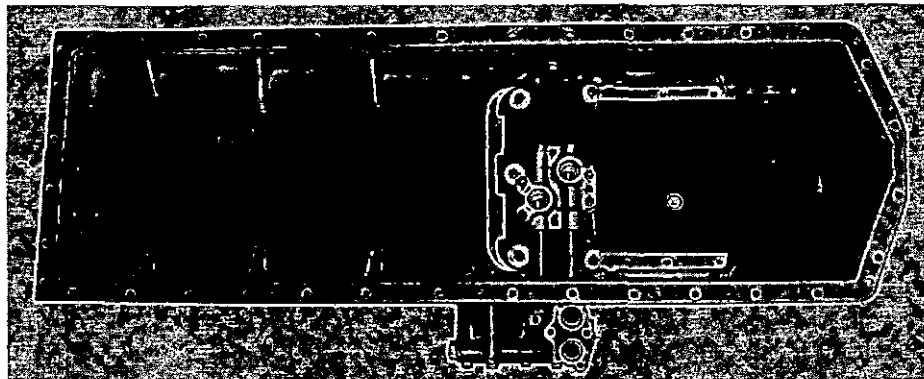

Fig. 23 Interior, forward pannier sump
22. **Sump.** Fit the relief valve assembly and oil gallery pipes (see fig. 23) using new joints and 'O' rings. Coat sump and crankcase joint faces thinly with 'Wellseal', attach a new joint washer and temporarily fit a $\frac{1}{4}$ inch UNF guide pin of suitable length (dependent on sump type) at each corner of the crankcase joint face. Lower the sump into position on the pins, fit the setbolts, each with a plain and spring washer, and tighten them evenly. Tighten the sump drain plug to between 80 and 85 lbf.ft. (110 to 115 Nm) and wire-lock it.